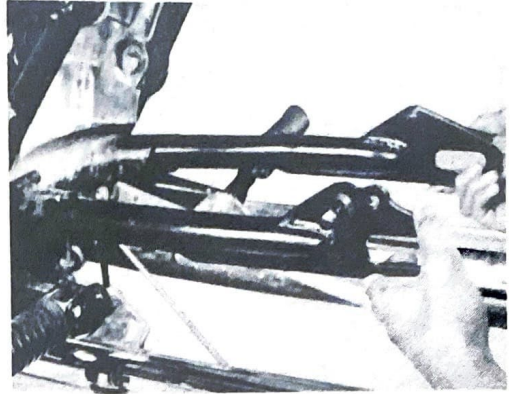

Fig. 5-9-4
- 1) Check the play of the rear arm by shaking it as shown in Fig. 5-9-4, with the rear arm installed.
If the play is excessive, replace the rear arm bushing or the rear arm shaft, whichever shows the wear. (Fig. 5-9-4)